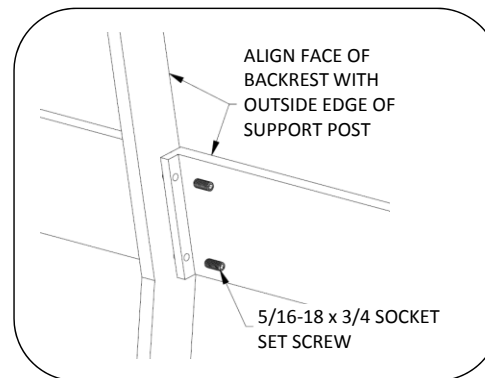

Fig. 7 – Install backrest
2. See Fig. 7 for orientation of the backrest.